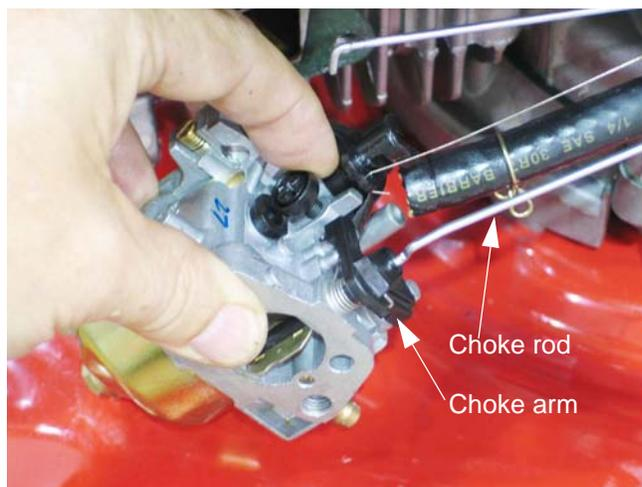

Figure 3.15
- 2e. Pivot the carburetor to disengage the Z-fitting on the end of the choke rod. See Figure 3.15.